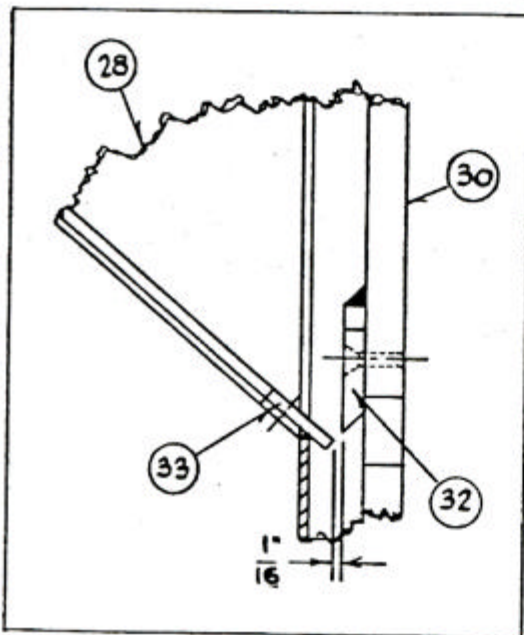
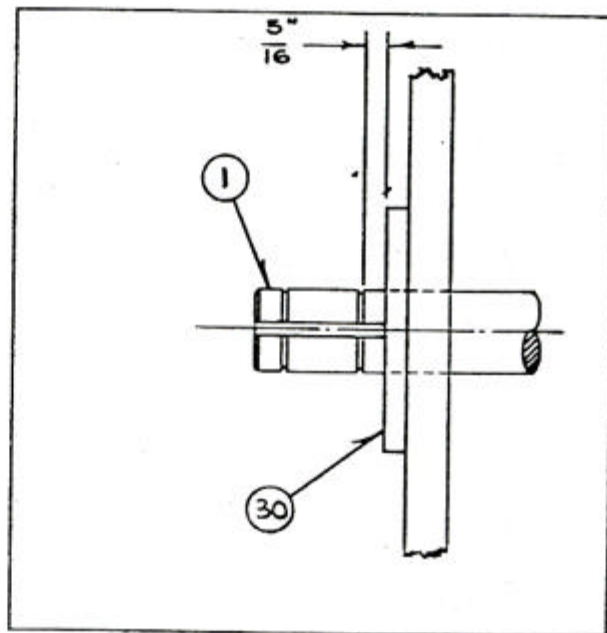

FIGURE 1
FIGURE 2
- (4) When the steel chipping knife 900-0076 needs replacing or sharpening, rotate the chipper disc until the three cap screws 5/16" holding the blade are under the three knock out seals (older chippers) or access panel (new chippers). Using a 5/16" allen wrench, loosen (do not remove) the three screws. Rotate knife to throat area and remove screws and knife. When you install the knife be certain to use loc-tite material on the threads so they will not come loose.
- (5) Care must be exercised when sharpening the blade to maintain the correct bevel and a straight cutting edge. When you install a knife, the clearance between knife and wear plate 900-0075 must be checked. This clearance or gap should be minimum 3/64" maximum 1/16". See figure 1. To adjust this clearance, loosen the three 1/4" flathead bolts which are located on the outside of the chipper wear plate, next to the chipper side plate. (Key 42, Dwg. No. 900-0091, page 7). Move the wear plate in or out accordingly and tighten the 1/4" nuts securely.
- (6) Note, if the gap between wear plate and knife is excessive, you will have vibration when chipping and the blade will seem to be dull.
- (7) If at any time it becomes necessary to disassemble the chipper for repairs, the chipping disc (900-0016) must be installed in exactly its correct position on the shaft. Refer to Fig. 2 for the distance between inside snap ring and disc hub.